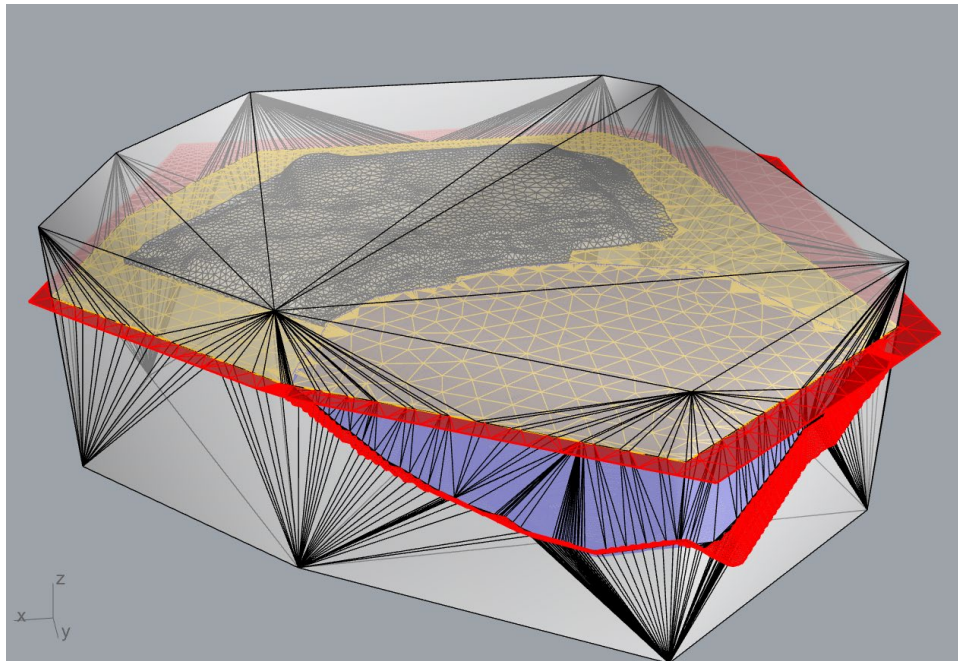

Figure 83: Trimming the topo and pit meshes.
22. Set the view to *Shaded* and run **_MeshTrim**. Select the box as the cutting object and the outer parts of the topo and pit mesh (highlighted in red in Figure 83) as objects to trim, to remove the parts of those meshes that extrude the box mesh. Press **Enter** to exit the command when the two meshes have been trimmed.